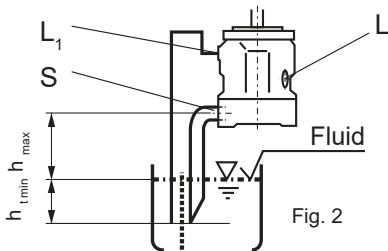

Fig. 2
- b) If the minimum fluid level is below the pump mounting surface pipe port "L1", and possibly "S" according to Fig. 2. Close port "L" with respect to conditions in 1.2.1.
Before installation fill pump housing, keeping it in a horizontal position. For mounting above tank see Fig. 2.